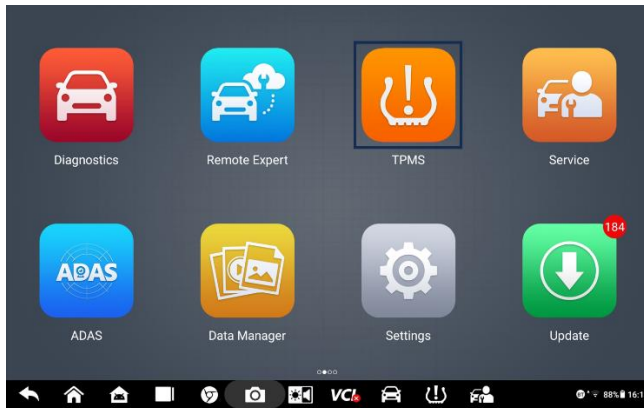

Figure 5-2 MaxiSys Home Menu
- Tap the **TPMS** application button from the MaxiSys Home Menu (Figure 5-2). The Vehicle Menu displays.
1. Tap the **TPMS** application button from the MaxiSys Home Menu (Figure 5-2). The Vehicle Menu displays.